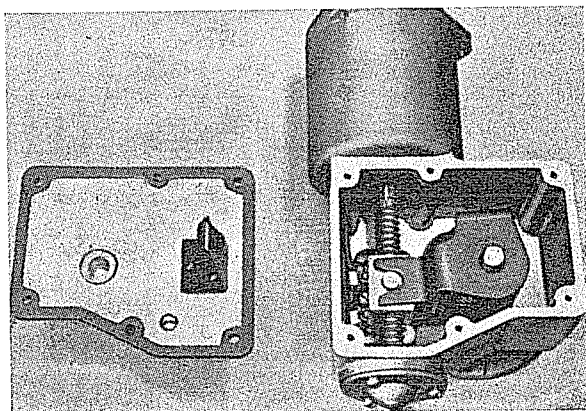

Fig. 56
- (6) By turning drive screw run nut from either top or bottom position to the centre of the screw, Figure 56.